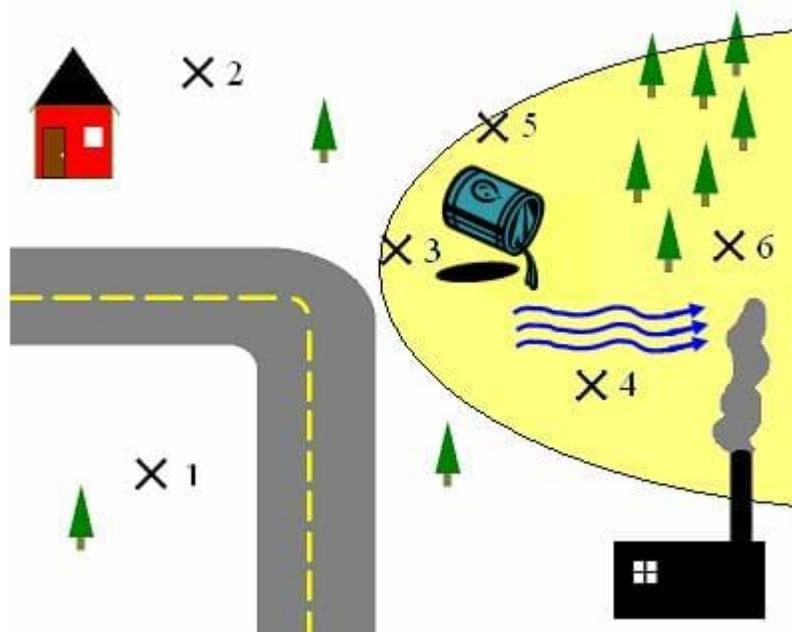

Figure 1. A map showing the direction of groundwater flow.
- Mix the soil samples in the appropriately-numbered bags/containers with different concentrations of lemonade according to the map in Figure 1, that is, label the highest concentrations of lemonade mix with the numbers in the yellow oval on the map. Specifically, make samples 1 and 2 with no lemonade mix, make sample 3 with the highest concentration of lemonade mix, make sample 6 with the lowest lemonade mix concentration, and make samples 4 and 5 equal in lemonade mix concentration, but higher than sample 6 and lower than sample 3.